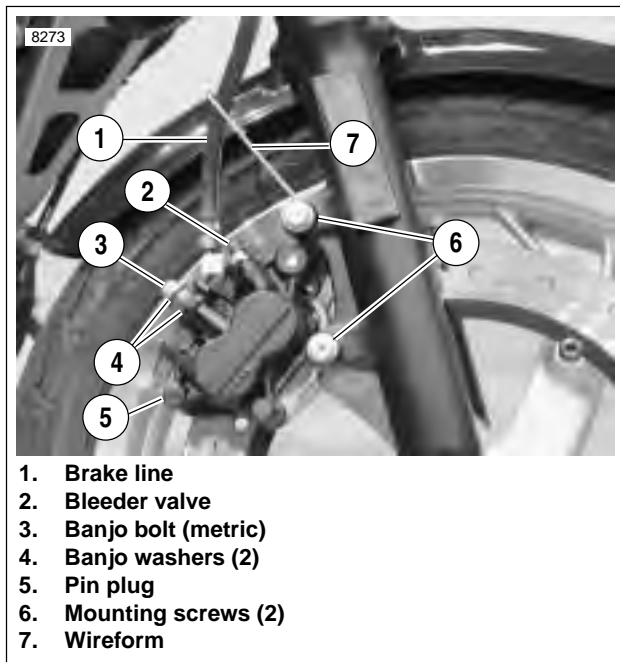

Figure 2-41. Front Brake Caliper
2. See Figure 2-41. Apply Loctite Threadlocker 271 (red) to both caliper mounting screws (6). Install wireform to upper screw and tighten both screws to 18-22 ft-lbs (24-30 Nm).
- e. See Figure 2-41. Install pin plug (5). Tighten to 18-25 in-lbs (2-3 Nm).
4. See Figure 2-41. Connect brake line (1) to caliper using two **new** banjo washers (4) and banjo bolt (3) (metric). Tighten to 16-20 ft-lbs (22-27 Nm).